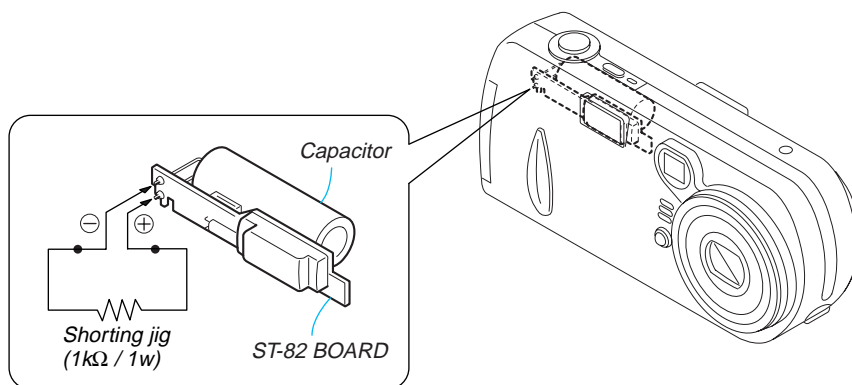

Fig. 6-1-3.
2. Fabricate the discharging jig as shown in Fig. 6-1-3 locally by yourself. Connect the discharging jig to the positive (+) and negative (-) terminal of the flash voltage charge capacitor. Allow ten seconds to discharge the voltage.